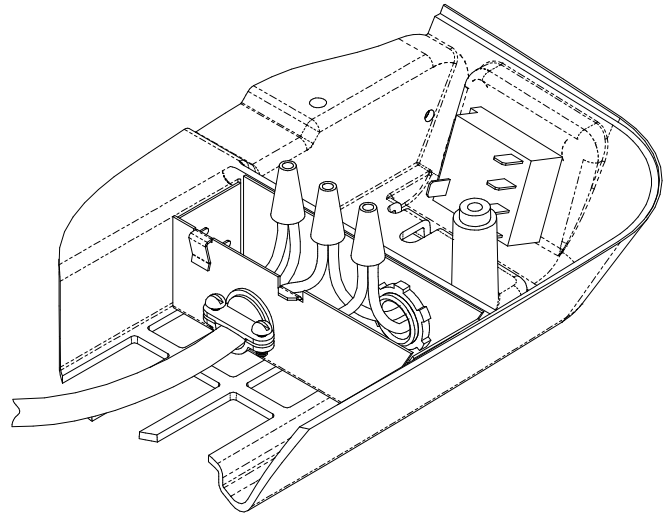

FIGURE 8
- F. Insert the supply wiring through the cable clamp and into the field wiring box so that 4 - 6” of supply conductor is inside the box. Secure the cable clamp over the supply wire sheath so that no movement is possible (See Figure 8).
white supply to the white pigtail. Using a U.L. approved electrical tape, secure the wire nuts to wires in a workmanlike manner (See Figure 8).